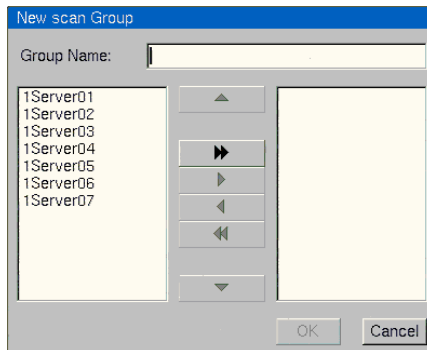

Figure 58 New Scan Group box
2. Click . The New Scan Group box appears. See Figure 58